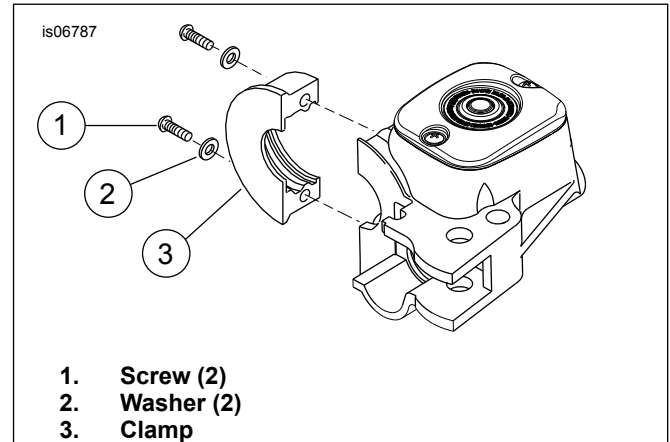

Figure 1. Remove Clamp
2. See Figure 1. Remove screws (1), washers (2) and clamp (3).